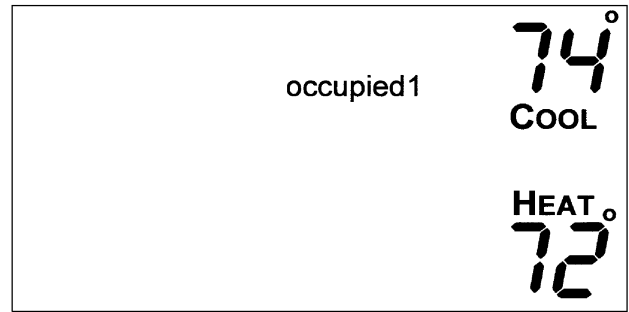

Fig. 5 — Setting Occupied 1 Set Points
1. Enter programming mode by pressing the Program button. The Occupied 1 annunciator will appear on the thermostat display. Use the UP ARROW and DOWN ARROW buttons to set the maximum number of Occupied periods for each day. The thermostat can be set to 1, 2, or 3. After the number of Occupied periods has been selected, press the Mode button. See Fig. 5.
2. The cooling set point for Occupied 1 will be displayed. Use the UP ARROW and DOWN ARROW buttons to raise or lower the cooling set point until the desired temperature is shown. The range of acceptable values is 35 to 99 F (1 to 37 C). Press the Mode button to continue. See Fig. 5.
3. The heating set point for Occupied 1 will be displayed. Use the UP ARROW and DOWN ARROW buttons to raise or lower the heating set point until the desired temperature is shown. The range of acceptable values is 35 to 99 F (1 to 37 C). Press the Mode button to continue. See Fig. 5.